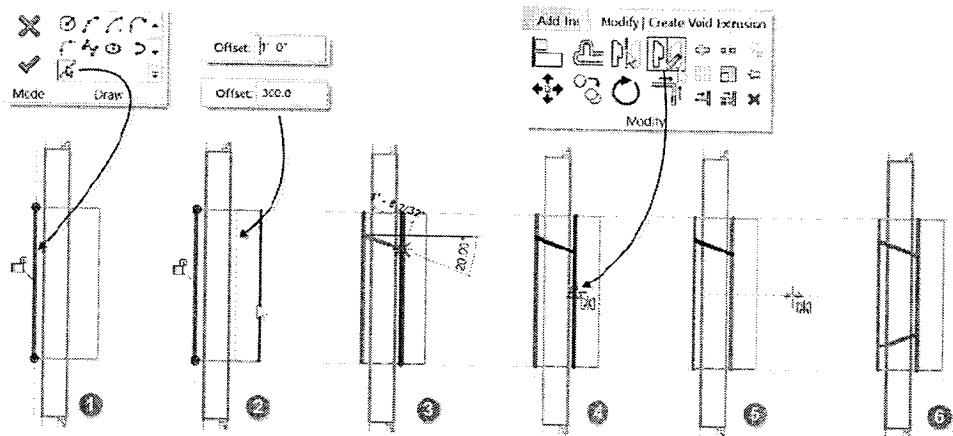

FIGURE 4.63 Sketch lines to form the firebox shape
- ⇒ Click the left vertical edge of the solid extrusion (see panel 1 in Figure 4.63).
- ⇒ Highlight the right edge of the solid extrusion and move the mouse slightly until the dashed line is within the fireplace structure. When it is, click to create a magenta sketch line (see panel 2 in Figure 4.63).
5. Using the temporary dimensions as a guide, click the first point on the left edge a bit down from the top corner and draw it down and to the right at a 20° angle (see panel 3 in Figure 4.63).
- ⇒ Click the midpoint of the vertical sketch line already drawn (see panel 4 in Figure 4.63).
- ⇒ Move the mouse horizontally and click the finish the mirror line (see panel 5 in Figure 4.63).